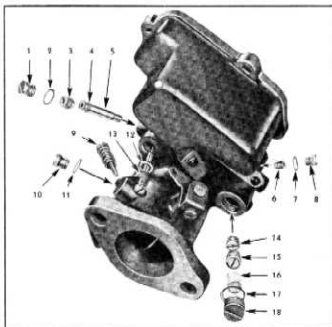

Fig. 87—Carter Downdraft Carburetor Jets and Plugs
2. Assemble copper gasket (4) on main nozzle (5) (fig. 87). Hold carburetor with air horn down, line up "D" section in end of nozzle
21. Install the idling adjusting screw and spring (9) (fig. 87). Turn screw in until it seats and then back off $1\frac{3}{4}$ turns.
22. Install idle port passage plug (10) and gasket (11) and tighten securely.